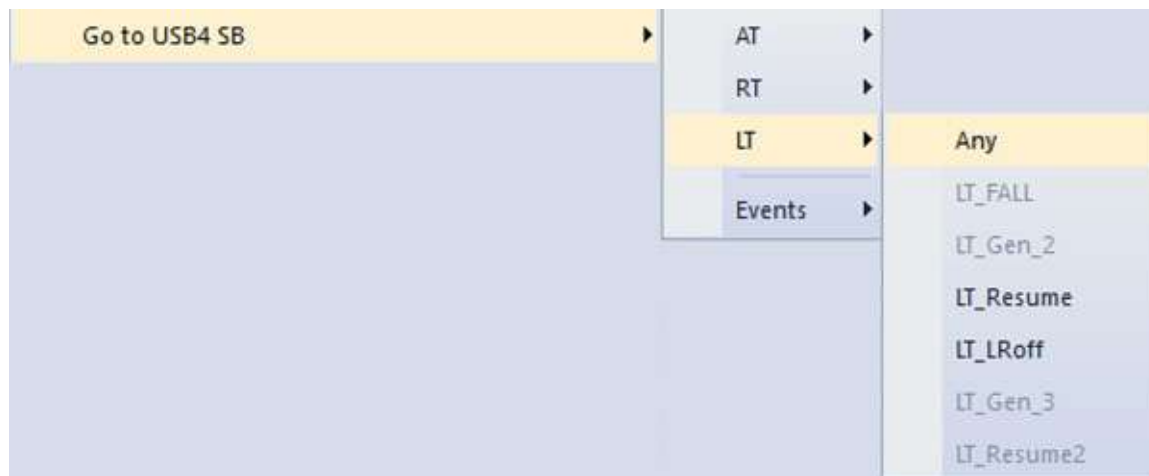

Figure 7.53: Go to USB4: LT
- ☐ LT: See Figure 7.53 on page 488.